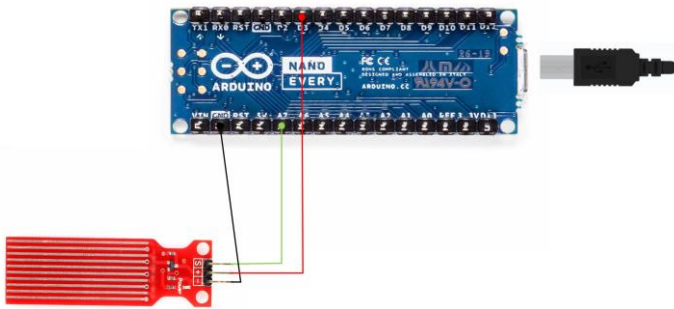

Fig. 2.1. Schematic for water sensor with Arduino Nano Every.
The schematic is given in Fig. 2.1. Step-by-step instructions for building this prototype are as follows.
- (1) Connect the water sensor to the microcontroller, as shown in the schematic in Fig. 2.1.
- (2) Connect the microcontroller to the PC via USB cable.
- (3) Open Arduino IDE. In Tools>Board choose Arduino Nano Every.
- (4) Copy the code below and upload it to the microcontroller.